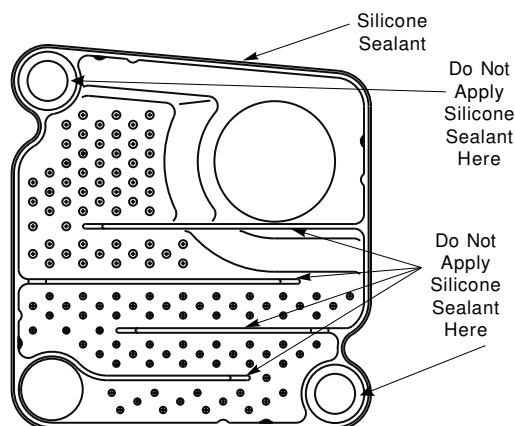

Figure 1
11. Apply bead of silicone sealant around perimeter of intermediate or back section except on inside of waterway holes (see Figure 1).